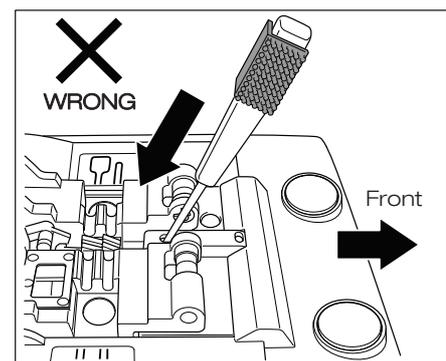

Figure 24
- Never insert the wafer jam repair tool into the wafer jam repair holes (both rear and front holes) towards the rear direction of the TSCD®-II (See Figure 24). Doing so could damage the parts inside the unit causing incomplete welds.